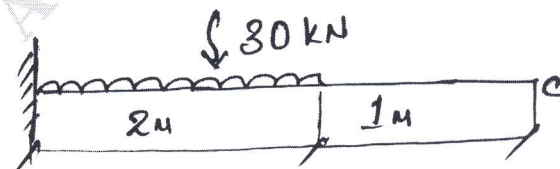

Fig Q8(b)
b. A 3mtr long cantilever is subjected to a UDL 30kN/mtr over a length of 2mtr. Starting from the fixed end. Determine the deflection at the free end. Taking $E = 200\text{GPa}$, $I = 20 \times 10^{-5}\text{m}^4$ (Ref Fig Q8(b))